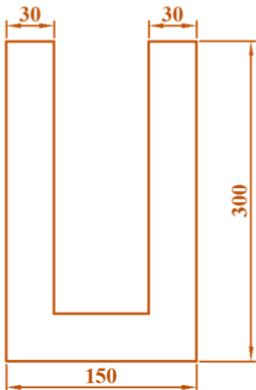

Fig.P5.18
11. Determine the value of  $I_{xx}$  and  $I_{yy}$  for the section shown in the fig.P5.18 about horizontal and vertical centroidal axes.